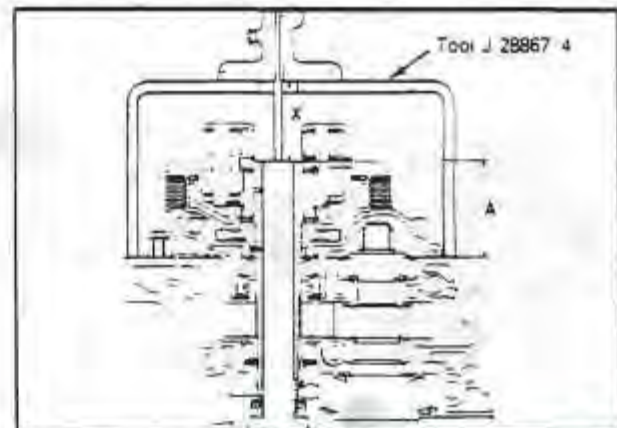
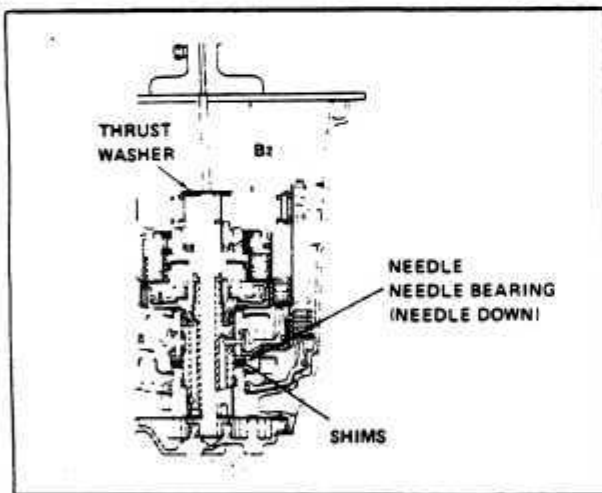

Fig. 41 PLANETARY CARRIER TO FINAL DRIVE CASE MEASUREMENT
Fig. 42 TRANSMISSION END PLAY ADJUSTMENT
- b. Position the special measuring tool J 28867 4 (part of the A/T tool kit) on the final drive case without the gasket. *Fig. 41*
Use a depth gauge to measure the distance "X" *Fig. 41* from the top face of the special tool to the top of the planetary carrier shaft. THRUST WASHER REMOVED.
- c. Subtract "X" *Fig. 41* from 120 mm (4.724 in.) to obtain the dimension "A", *Fig. 41*
- d. Install clutch C2 in the transmission case. Rotate the clutch until it engages all of the brake B1 discs and is fully seated. *Fig. 42*
- e. Fit the washer on clutch C2 with the flange on the washer facing towards clutch C2. *Fig. 42*
- f. Place the needle roller bearing on top of the washer with the needles facing the washer. *Fig. 42*
- h. Place the thrust washer on the hub of clutch C1. *Fig. 42*
- i. Clean the contact surface of the transmission case and place a straight edge across the face of the transmission. *Fig. 42*
Use a depth gauge to measure the distance "B" from the top of the straight edge to the top of the thrust washer on the hub. *Fig. 42*
- k. Calculate the end play clearance by *subtracting* dimension "A" *Fig. 41* from dimension "B", *Fig. 42*
End play clearance should be between 0.37 – 0.74 mm (90.015 – 0.029 in.). If the clearance is not within specifications, it will be necessary to increase or decrease the thickness of the shim(s) located between the transmission case and clutch C2. *Fig. 42*